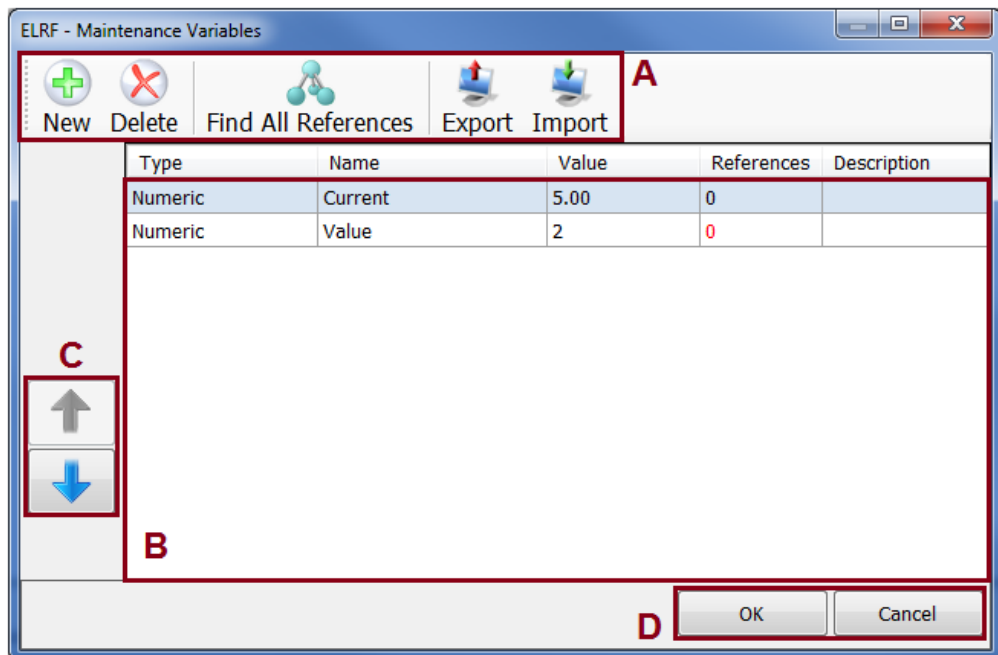

Fig 8-1 Variable window
1. Click  button - Fig 8-1 (A).
From the **Variable** window, under the result area Fig 8-1 (B).
From the **Variable** window, under the result area Fig 8-1 \(B\).
1. Click the **Export** button  - Fig 8-1 \(A\).
1. Click the **Import** button  - Fig 8-1 \(A\).
4. The UUT's imported variables will be displayed under the result area Fig 8-1 \(B\).